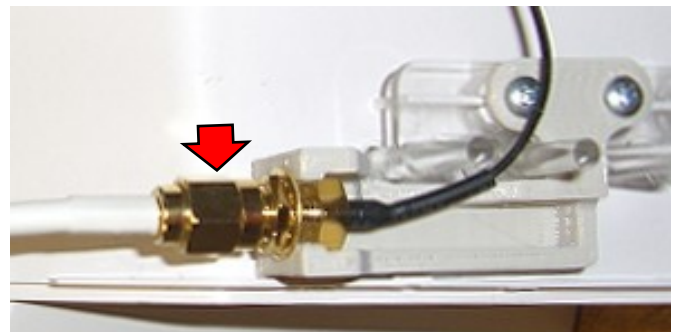

Fig. 3: Connect the cable to the Bracket.
7. **Connect the Antenna (SMA female) cable end to the male threaded end of the Bracket** (see Fig. 3). Route the cable through the Hub housing.